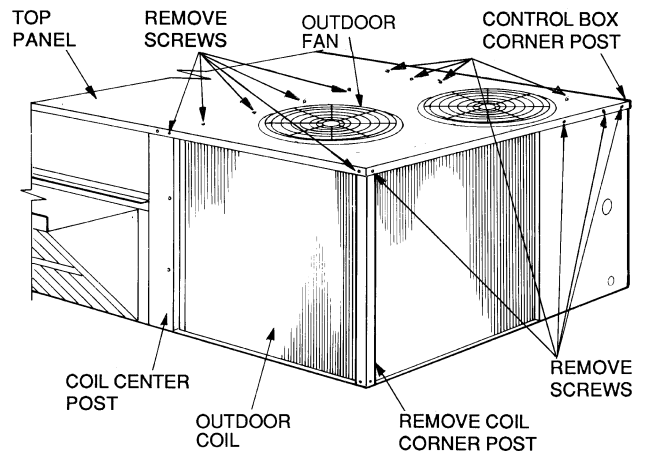
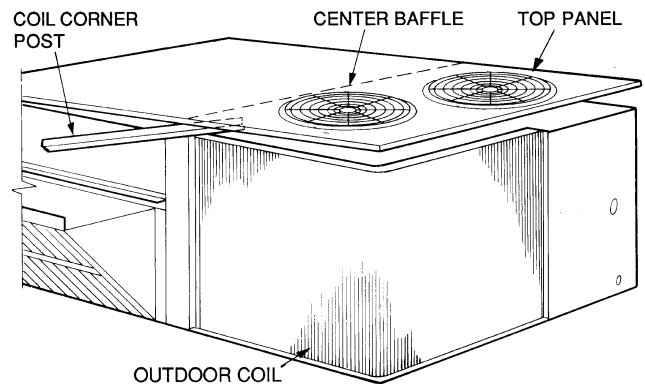

Fig. 43 — Cleaning Outdoor Coil
Fig. 44 — Propping Up Top Panel
3. Remove the outdoor coil corner post. See Fig. 43. To hold the top panel open, place the coil corner post between the top panel and the center post. See Fig. 44.